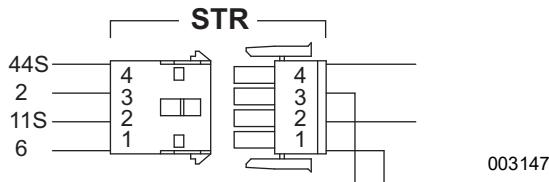

Figure 2-9. Stator Connector (STR) Pin Locations
2. See **Figure 2-9**. Locate and disconnect STR connector in wire harness.